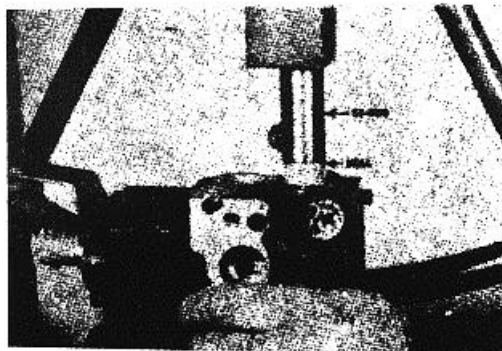

Figure 4-55. Assembling tachometer drive oil seal.
3. Press oil seal on the tachometer drive with sealing lip down. Use ST-420 to assemble seal over split pin. Seal must seat on the drive bushing. Fig. 4-55.